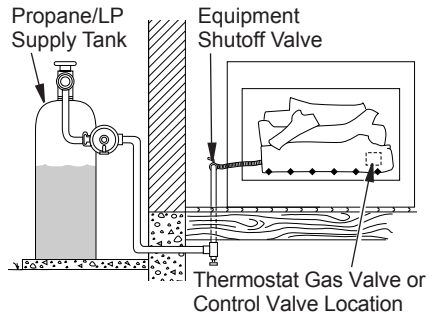

Figure 17 - Checking Gas Joints (Propane/LP Gas Models)
3. Check all joints from gas meter to equipment shutoff valve for natural gas or propane/LP supply to equipment shutoff valve for propane/LP (see Figures 17 and 18). Apply noncorrosive leak detection fluid to all joints. Bubbles forming show a leak.
4. Check all joints from equipment shutoff valve to thermostat gas valve (Thermostat-Controlled Models) or to control valve (Manually-Controlled Models) (see Figures 17 and 18). Apply noncorrosive leak detection fluid to all joints. Bubbles forming show a leak.